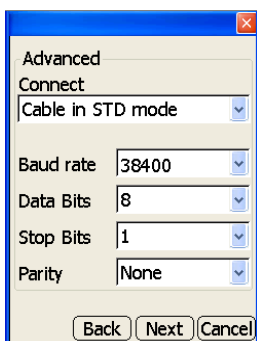
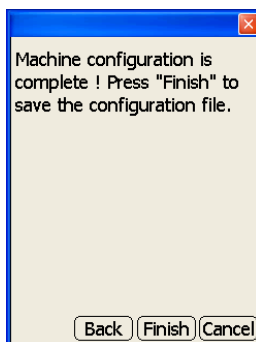

Figure 2-45. Advanced Dialog Box
Figure 2-49. Machine Configuration Complete Dialog Box
- On the **Advanced** dialog box (Figure 2-45 on page 2-34), set the following parameters, and press **Next** to continue:
For 3-track curb and gutter machines, the *Advanced* dialog box follows if a prism sensor is selected. See Figure 2-45 on page 2-34 for more information. The *Machine configuration complete* dialog box (Figure 2-49 on page 2-37) follows the *Advanced* dialog box.
For dozer and grader machines, the *Machine configuration complete* dialog box (Figure 2-49 on page 2-37) follows the *in-cab display* dialog box.
On the *Machine configuration complete* dialog box, press **Finish** to save the configuration file (Figure 2-49).